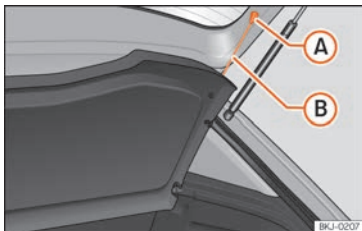

Fig. 137 In the boot: removing and installing the shelf.
- Detach the cord loops >>> Fig. 137 (B) from their hooks (A).
- Attach the securing straps >>> Fig. 137 (B) onto the rear lid.